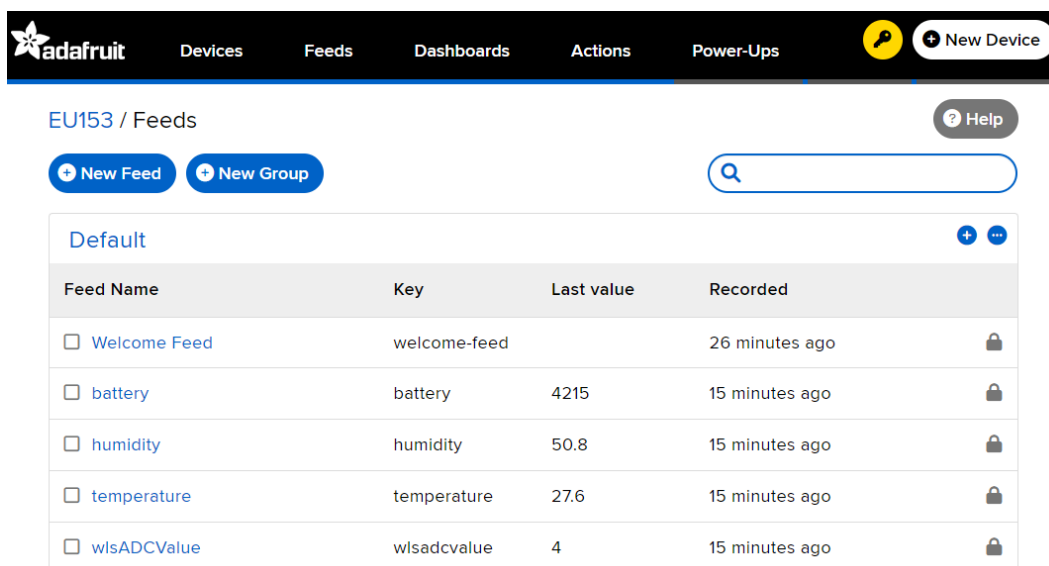

Figure 9. Newly updated topics/ Feeds
3. If you have successfully logged in to io.adafruit.com you will have only one Welcome feed. You can delete it. When device updates the topics your Feeds should look like Figure 9. If you don't want to wait until it is automatically updated you can press button SW2 on EU153-1 board.